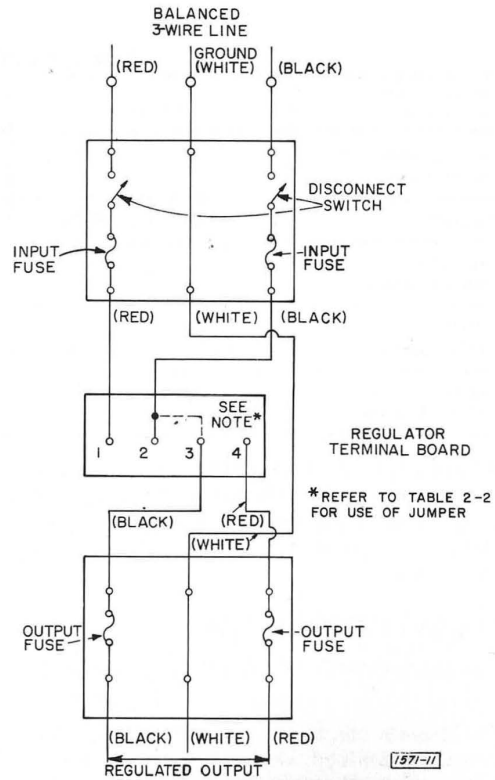

Figure 2-6. Circuit diagram for regulation of line-to-line voltage in a three-wire line.
**2.2.2.3 Regulation of Line-to-Line Voltage Only.** The connections for the regulation of the line-to-line voltage only, in a balanced three-wire line where neither side is grounded, are shown in Figure 2-6. Install suitable fuses and a disconnect switch as noted in Table 2-1.